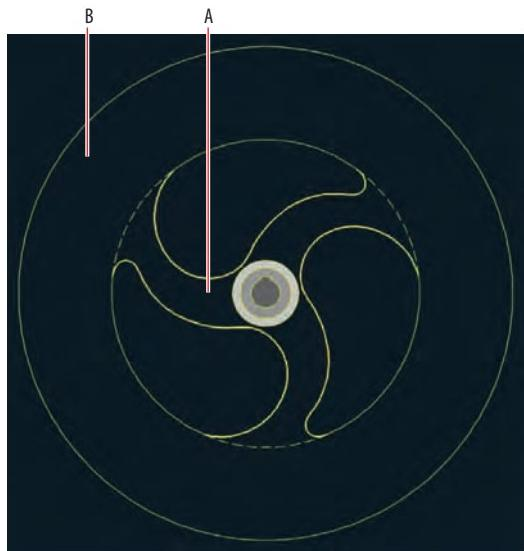

FIGURE 8.6 Picking points on the rotor
15. Click the Hatch tool on the Draw panel and then click point A in Figure 8.6.
- 17.** Type **H** (for Hatch) and press Enter. Click point B shown in Figure 8.6. The command prompt reads as follows: